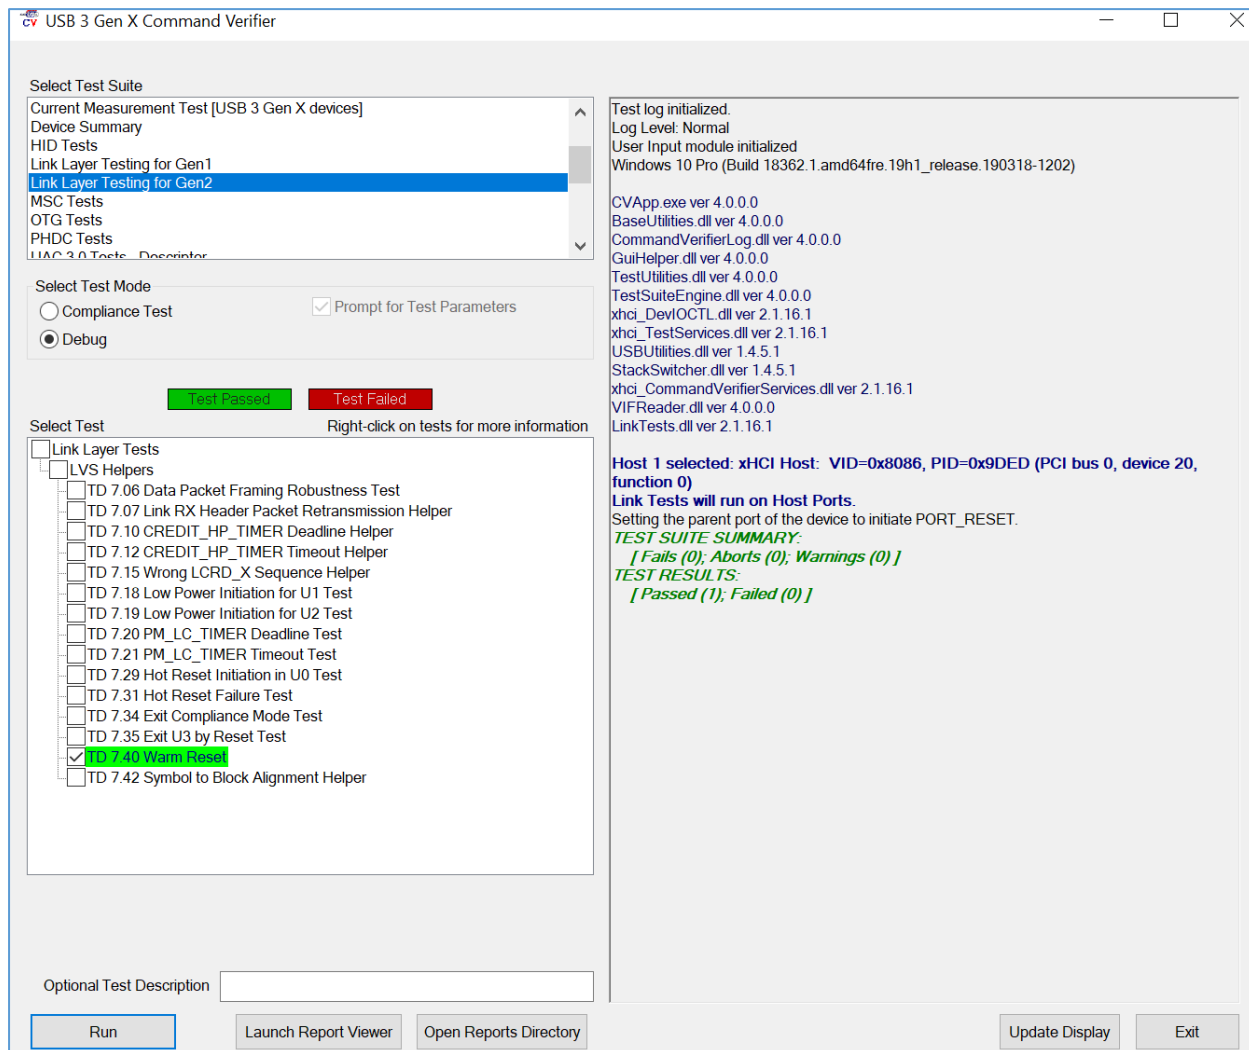

FIGURE 7.21: TEST RESULTS GENERATION IN CV TOOL FOR TD 7.40 WARM RESET TEST
14. The test results will be updated in the CV tool once the test execution is completed (Figure 7.21 below).